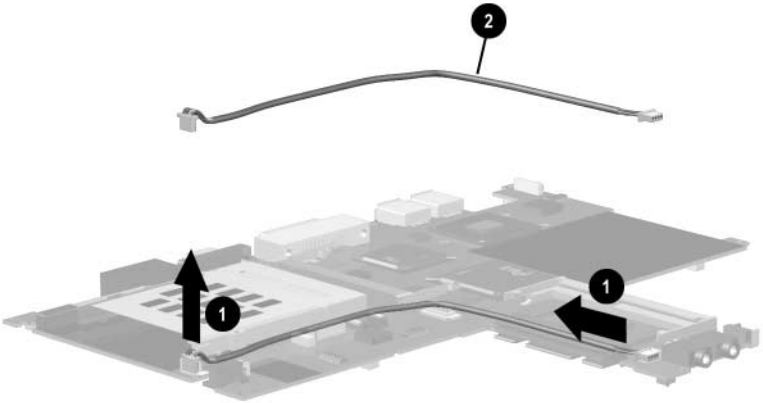

Figure 5-20. Removing the Audio Cable
3. Disconnect both connectors on the audio cable ❶ from the system board (Figure 5-20).
4. Remove the audio cable ❷.